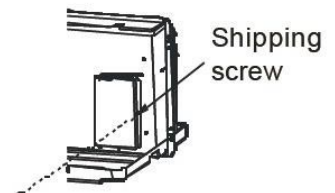

Fig.5
- Remove the shipping screw from the vent door. (See Fig. 5)
- Make sure to remove the shipping screw from the vent door. (See Fig.5)